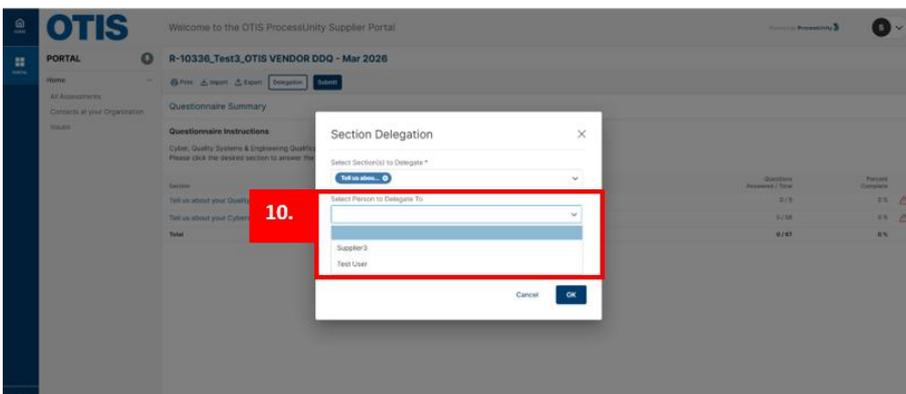

Figure 23
10. Once you have selected which section to delegate, now its time to select which supplier contact you want to delegate the sections to. Click on the Select Person to Delegate To drop down to select the supplier contact you want to delegate to. Click on the supplier's name you want to delegate from the dropdown menu (Refer figure 23)